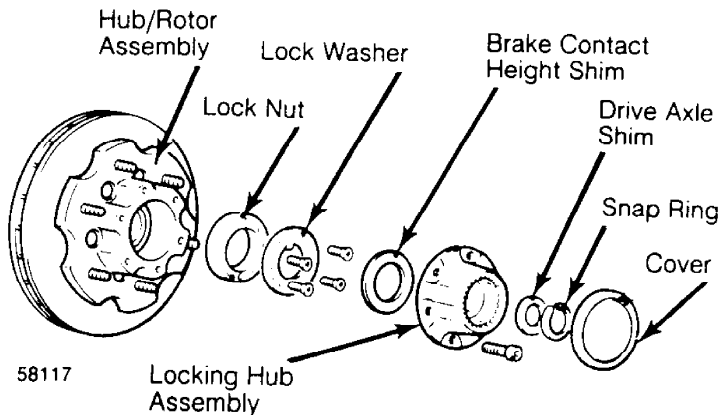

Fig. 2: Exploded View of Automatic Locking Hub
3) Using snap ring pliers, remove snap ring and shim from end of drive axle. See Fig. 2. Using hexagonal wrench, remove locking hub retaining bolts. Remove locking hub assembly.